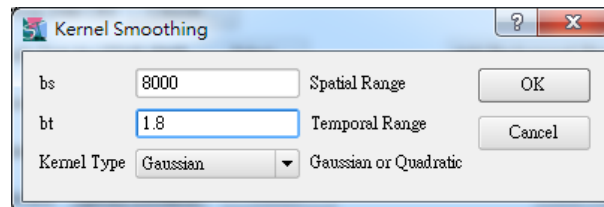

Figure 2.3
- ‘Kernel Smoothing’ will show a related window pops up and prompts you to specify the spatial and temporal range parameters b_s and b_t , respectively (Figure 2.3). These are necessary for the kernel smoother. Select either a ‘Gaussian’ or a ‘Quadratic’ kernel from the window drop-down menu.